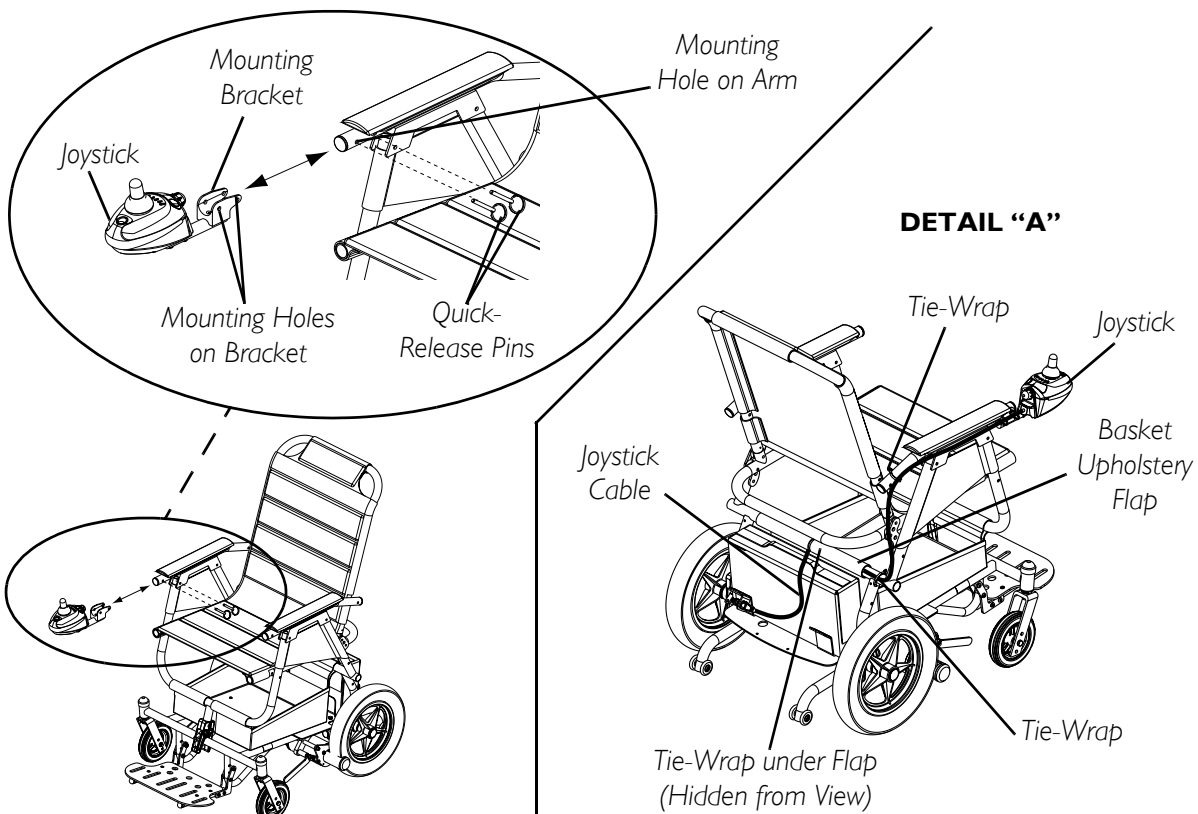

FIGURE 7.2 - REPOSITIONING THE JOYSTICK
NOTE: For this procedure, refer to FIGURE 7.2.
2. Cut the tie-wraps that secure the joystick cable to the wheelchair arm and frame. Refer to Detail "A" of FIGURE 7.2.
9. Insert the two (2) quick-release pins through the mounting holes to secure the joystick to the arm.